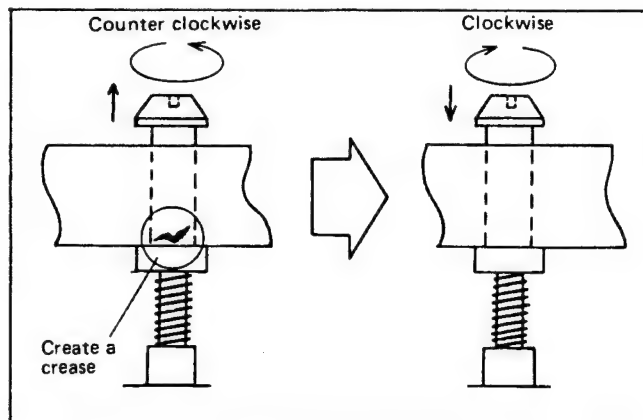

Figure 27.
6. When rough adjustment of the tape traveling is finished, set the retaining guide's height as follows to allow the tape to run along the retaining guide. See Fig. 27.